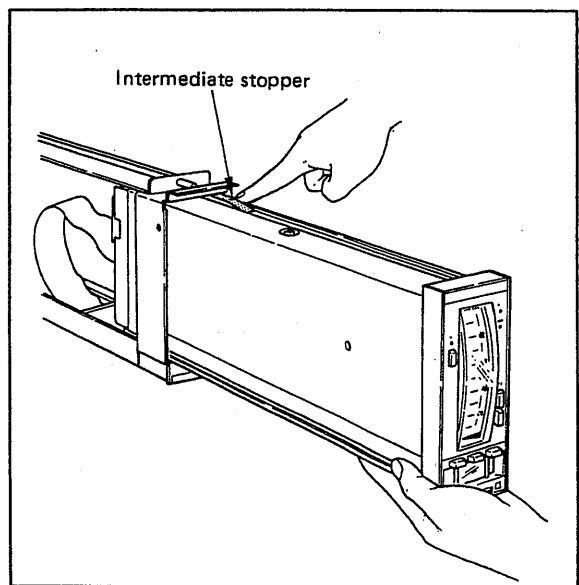

Figure 5-2-2. Removing Instrument Module.
- (2) To remove the instrument module from the housing, push down on the intermediate stopper while pulling the instrument module out of the housing as shown in Figure 5-2-2.